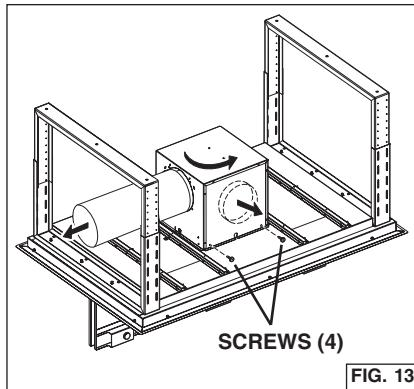
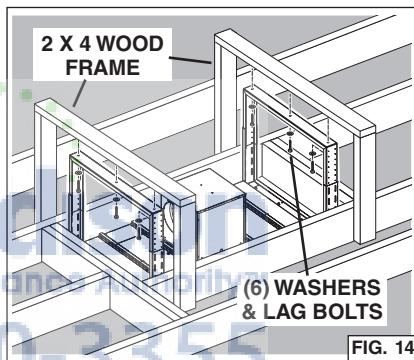

FIG. 13
FIG. 14
2. To change direction of the duct without using elbows. Fig. 13:
- Remove (2) screws from inside of blower box.
- Remove (4) screws from sides of blower box.
- Remove blower, turn blower 90 degrees, reinstall (4) screws.
4. Secure each support frame to the wooden hood support frame using (6) 6 x 70 mm lag bolts and washers provided. Fig. 14.